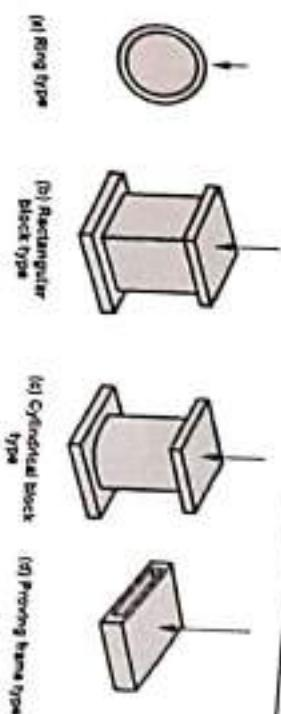

Fig. Q.52.1
- The elastic elements used are designed and shaped according to specific requirements. The elastic elements of different shapes are as shown in the Fig. Q.52.1.